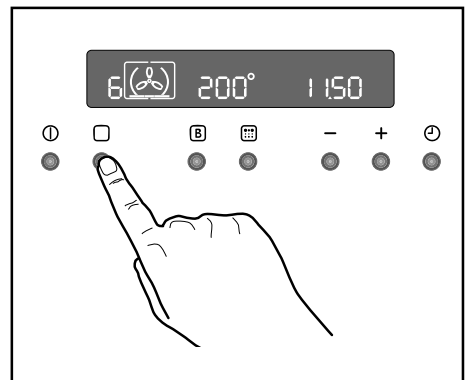

Fig. 5
- 2) Press button **□** to select the required oven function. Each time button **□** is pressed, a cooking symbol will appear in the display and the corresponding cooking function number will appear to the left of the currently selected cooking function symbol (Fig. 5).